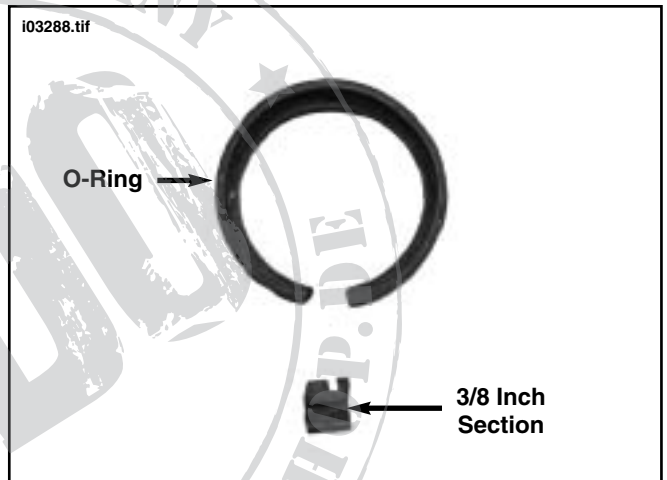

Figure 12. Modify O-ring
- Refer to Figure 12. Locate the 3 slots that align the O-ring gasket to the directional housing. Cut a 3/8 inch (approximate) section out of the O-ring at the bottom, center slot, position.